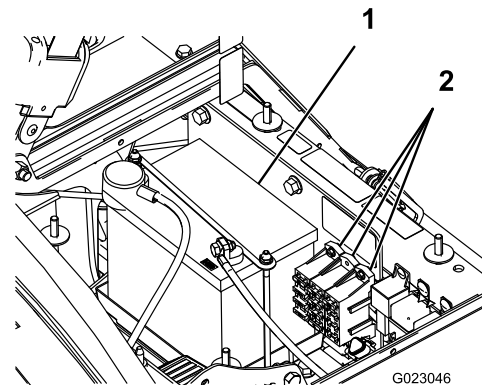

Figure 48
There are 2 fuse blocks and 1 empty slot in the electrical system. They are located beneath the seat (Figure 48).
2. The battery is located on the right side of the machine behind the pump (Figure 48).
5. Remove the battery retainer and fasteners (Figure 48).
2. Install the battery retainer and secure it with the fasteners you removed previously (Figure 48).
4. Install the battery cover and secure it with the 2 knobs (Figure 48).
1. Loosen the knobs on the sides of the battery box and remove the battery cover (Figure 48).